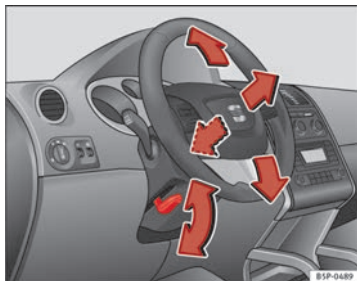

Fig. 133 Adjusting the steering wheel position
- Push the lever under the steering column ⇒ fig. 133 down ⇒ ⚠.